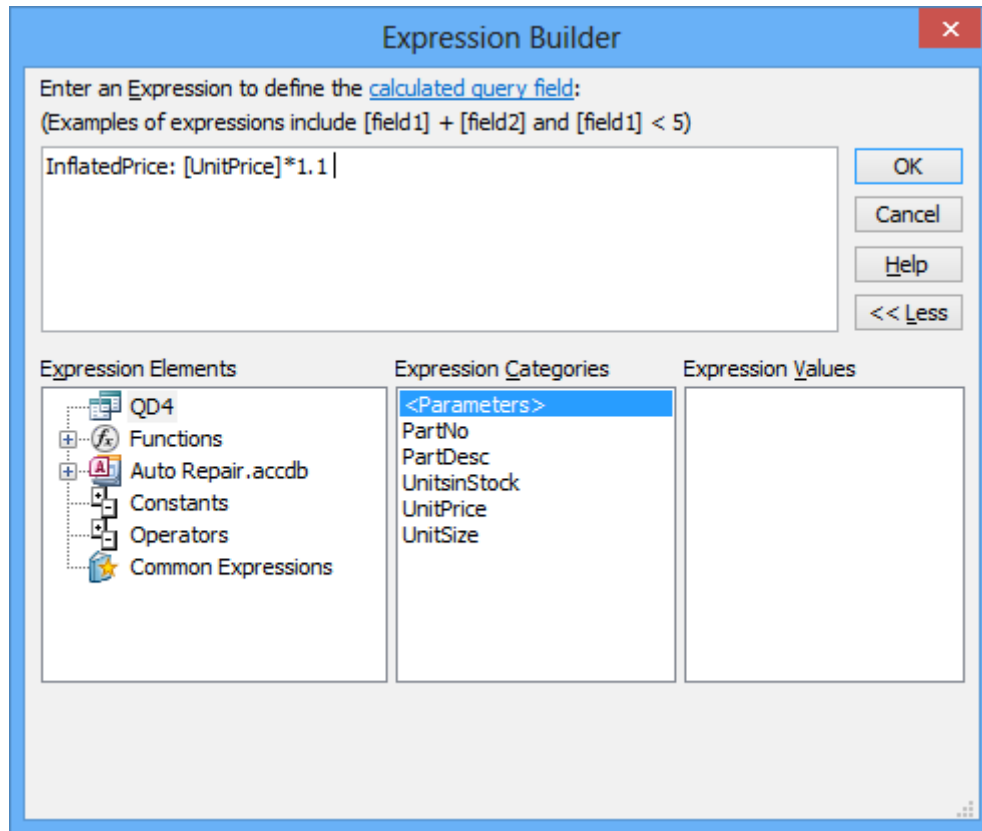

Figure 20: Expression Builder for “QD4”
6. Type into the Text Area: Type the expression as shown in the text area in Figure 20: